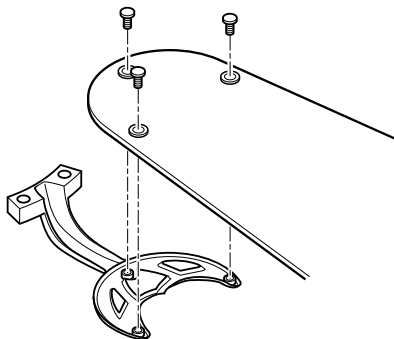

Figure 6b - Attaching Fan Blade to Blade Iron
2. Attach each blade to blade iron using three blade assembly screws as shown in Figure 6b. Some fans feature a decorative medallion as